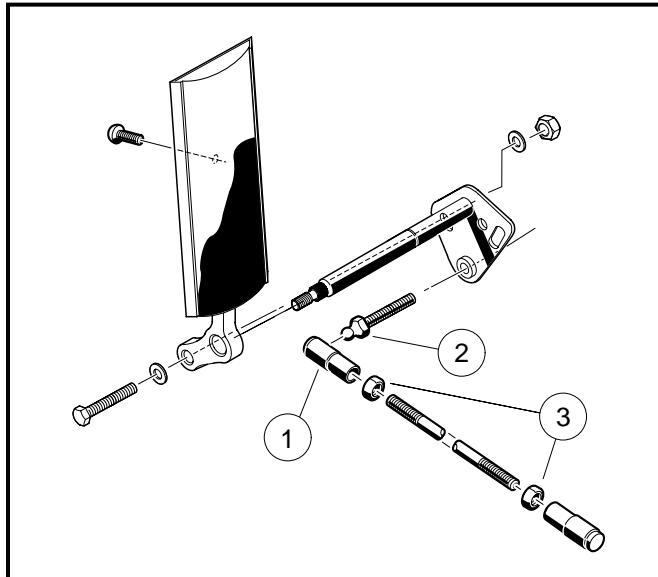
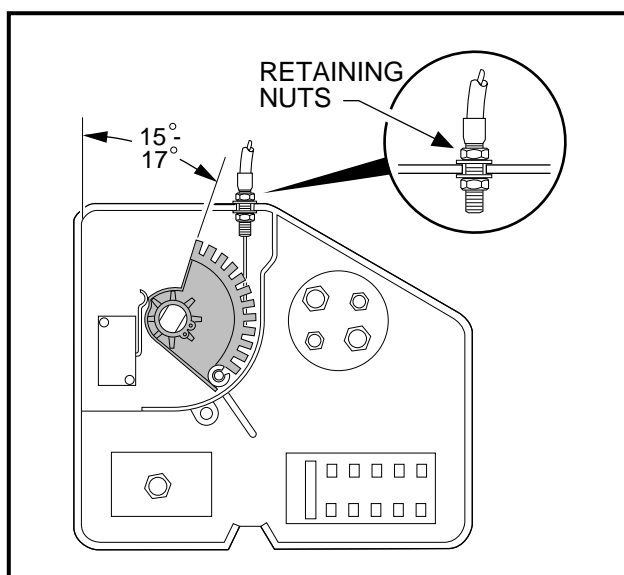
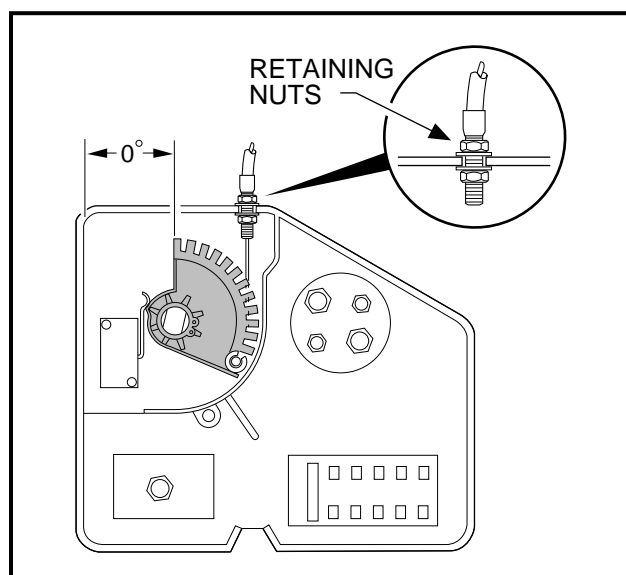
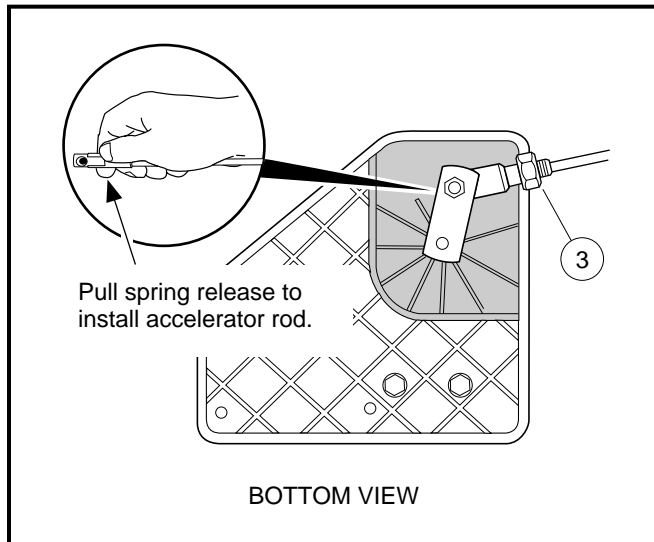

Figure 14-8 Accelerator Rod
Figure 14-9 DS Golf Car Cam Position
Figure 14-10 Turf 1, Carryall 1 and Villager 4 Cam Position
Figure 14-11 Accelerator Rod
2. Remove the accelerator rod by disconnecting the ball joint (1) from the ball stud (2) on the accelerator pedal (Figure 14-8, Page 14-9) and from the bell crank at the electrical box (Figure 14-11, Page 14-11).
2. Install the ball joint on the ball stud at the accelerator pedal (Figure 14-8, Page 14-9).
4. Remove the electrical box cover (Figure 14-9, Page 14-10).
- For the DS vehicle, with the ball joint jam nuts (3) (**Figure 14-8, Page 14-9**) loose, adjust the length of the accelerator rod to obtain a throttle cable cam position of 15-17° as shown (**Figure 14-9, Page 14-10**).
- For Turf 1, Carryall 1, and Villager 4 vehicles, with the ball joint jam nuts (3) loose (**Figure 14-8, Page 14-9**), adjust the length of the accelerator rod to obtain a throttle cable cam position of 0° as shown (**Figure 14-10, Page 14-10**).
6. Install the accelerator rod on the bell crank ball joint on the electrical box (**Figure 14-11, Page 14-11**).**CAUTION**
2. Remove the electrical box retaining screw and cover and loosen the cable housing retaining nuts. **See Figure 14-9 or 14-10, Page 14-10.**
1. Connect the cable to the cam (17) in the electrical box.
2. Insert the cable housing into the mounting slot in the wall of the electrical box, with approximately the same number of threads visible between the jam nuts as are visible from the nut inside the box to the end of the cable housing (**Figure 14-9 or Figure 14-10, Page 14-10**). Tighten the nuts finger tight.
6. To **reduce** RPM, loosen the accelerator cable retaining nut on the outside of the electrical box wall and tighten the retaining nut on the inside of the wall until the desired rpm is reached (**Figure 14-9, Page 14-10**) or (**Figure 14-10, Page 14-10**). To **increase** RPM, loosen the cable retaining nut inside the electrical box and tighten the nut outside the box until the desired rpm is reached.